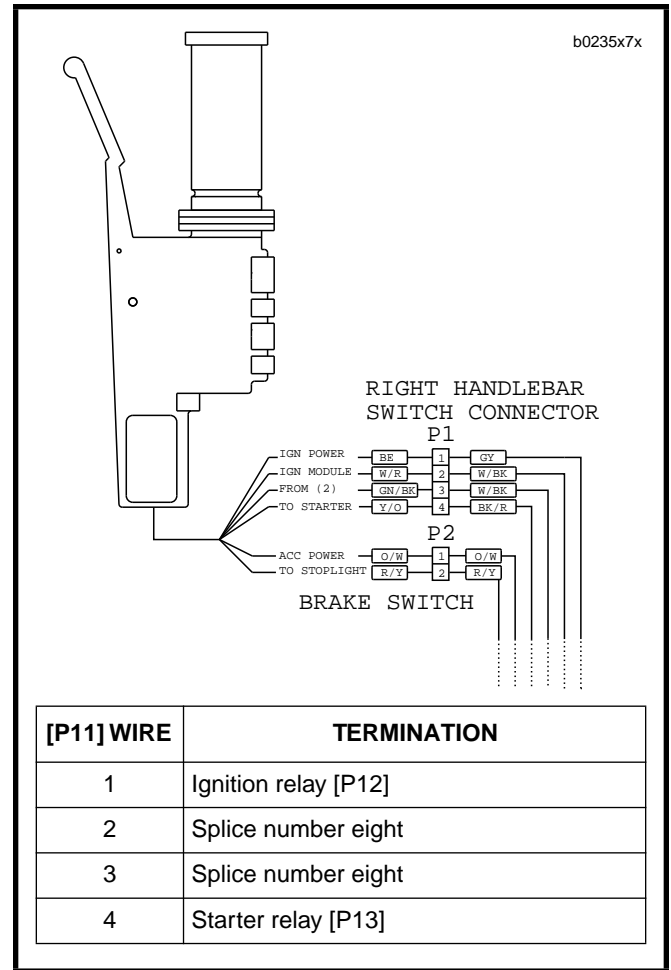

Figure 7-40. Right Handlebar Switch Connection [P1]
3. See Figure 7-40. Cut as many cable straps as necessary to access right handlebar switch connector [P1] along right side frame tube. Detach connector [P1] from wiring harness.
3. See Figure 7-40. Route switch housing wiring harness between front forks and along right side frame tube. Attach connector [P1] to wiring harness. Fasten wiring harness to frame with **new** cable straps.